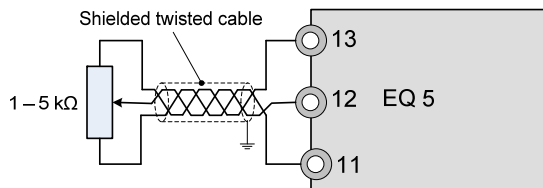

Fig. 2-3-8 Shielding
(1) Analog input terminals (13,12,V2,C1,and 11)
a. These terminals receive analog signals that may be affected by external noise. The cables should be as short as possible (66ft /20m or less), be shielded twisted cable, and must be properly grounded. If the cables are affected by externally induced noise, the shielding effect may be improved by connecting the shield to terminal [11]. (see Fig. 2-3-8)